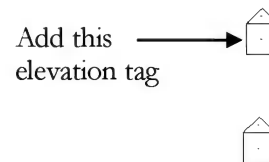

FIGURE 8-1.1 Added elevation tag
4. Place the temporary elevation tag in the plan view as shown in Figure 8-1.1.